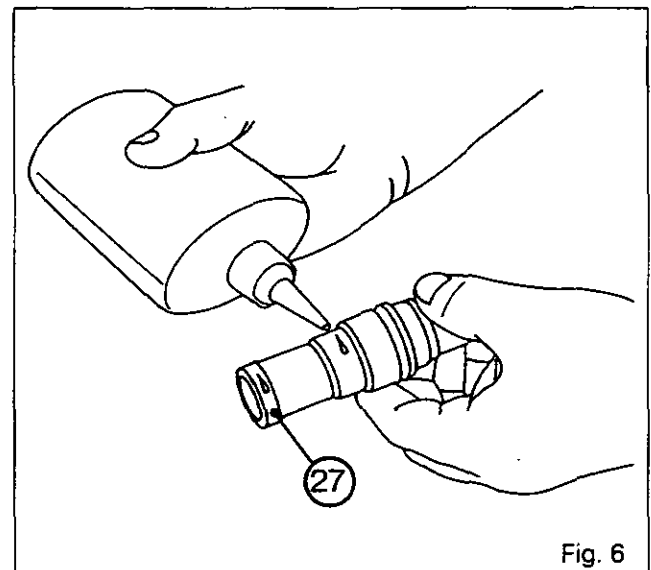

Fig. 6
The sleeve (27), smeared with Loctite 648 (Fig. 6) is fitted with a press. If disassembly proves necessary, check when reassembling that the channel is not obstructed with Loctite.